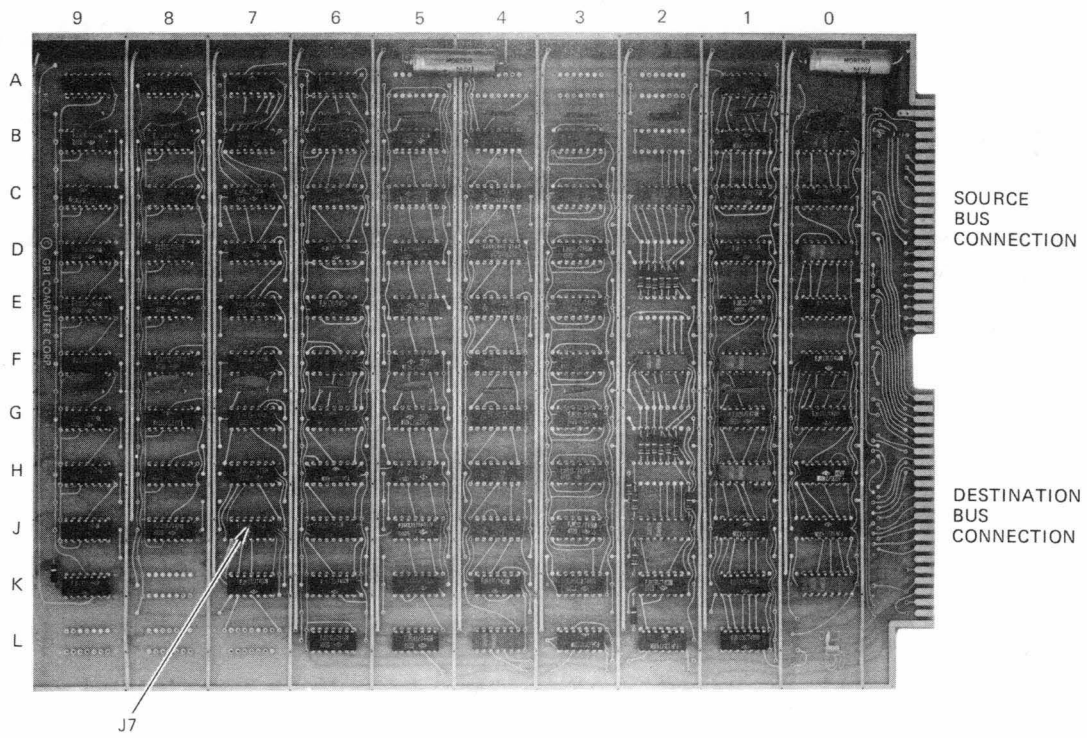
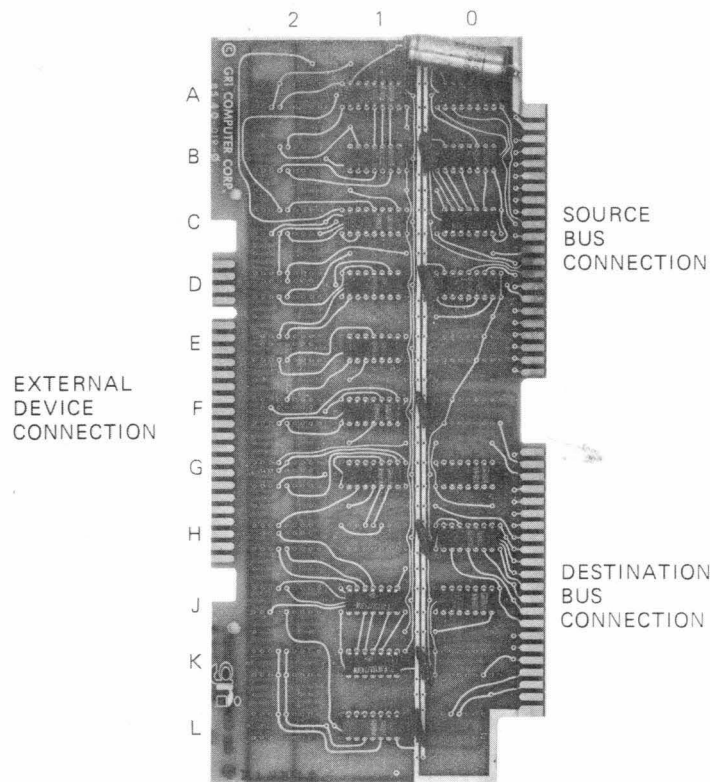

Figure 5-2 Small Firmware/Device Operator PC Card (Component Side)
Figure 5-3 Large Firmware/Device Operator PC Card (Component Side)
The IC chips are positioned on either small or large printed circuit (PC) cards to build the various system operators. The layout of all cards is identical to facilitate location of a particular IC chip. This layout is shown in Figures 5-2 and 5-3 with a sample callout (J7) shown in Figure 5-3.